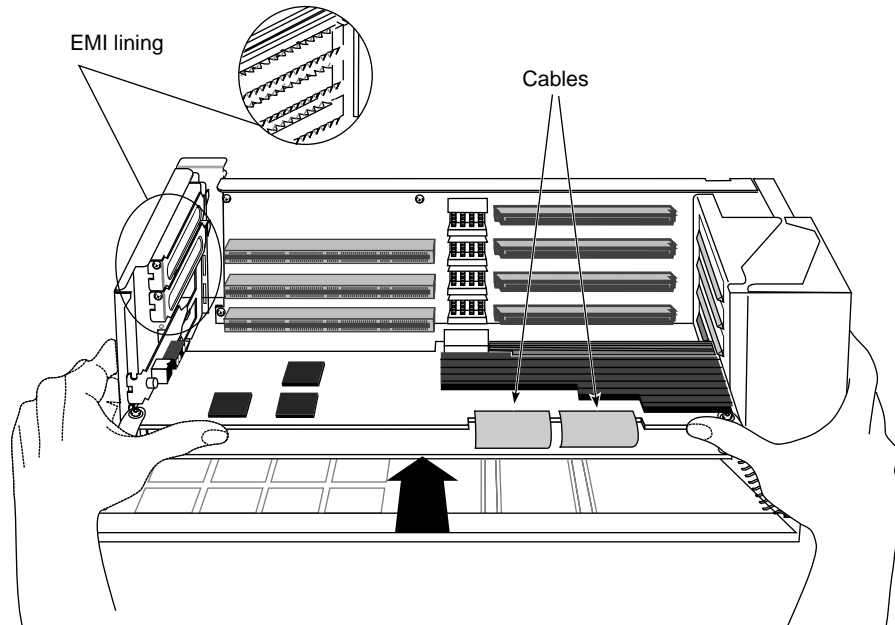

Figure 5-60 Connecting the High IMPACT Graphics Board Set to the Midplane
- Push the board set into the slot until the connector on the back of the board is securely connected to the connector on the midplane. See Figure 5-60.